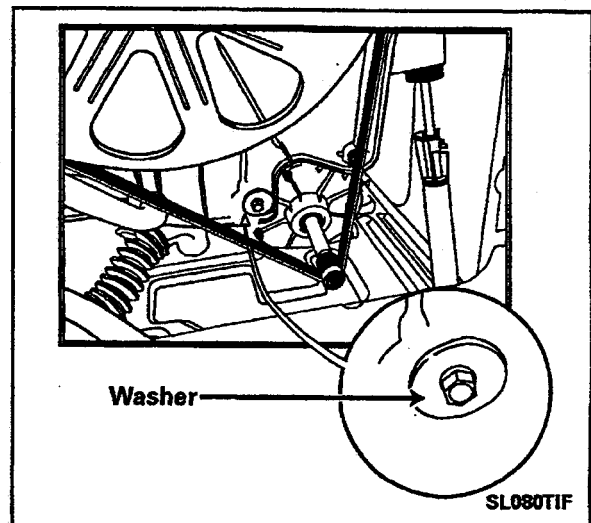

Figure 2-50
The drive belt has six (6) ribs which mate with the face of the motor pulley. The belt encircles the motor pulley and also the drive pulley of the spinner (*Figure 2-50*).
1. No adjustment is necessary. The belt is designed to stretch and adapt to proper adjustment between the drive pulley and the motor pulley (*See Figure 2-50*).